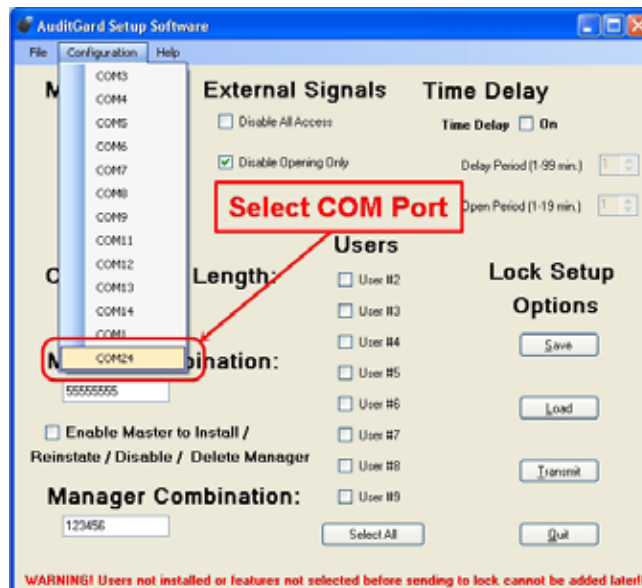

Figure 4.
3. Select the appropriate COM port from the list (Figure 4). For a USB Adapter select the virtual COM Port assigned by the system. For a Serial Adapter select the standard Serial COM Port to be used.